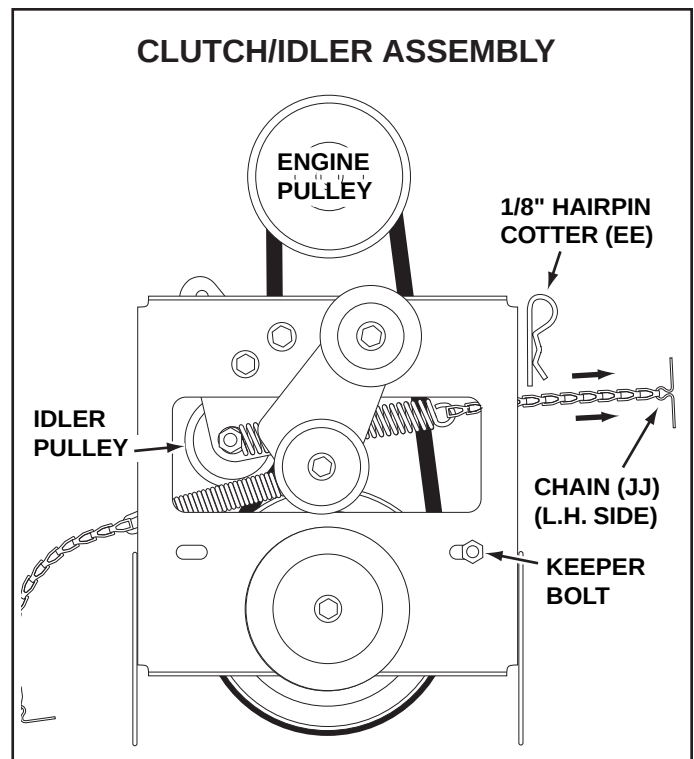

FIGURE 19
STEP 20: (SEE FIGURE 19)
- Place tension on the belt by pulling the left side tensioning chain (JJ) out as far as the 3/32" hairpin cotter in the chain will allow. Secure the chain in this position by inserting a 1/8" hairpin cotter (EE) through the chain.